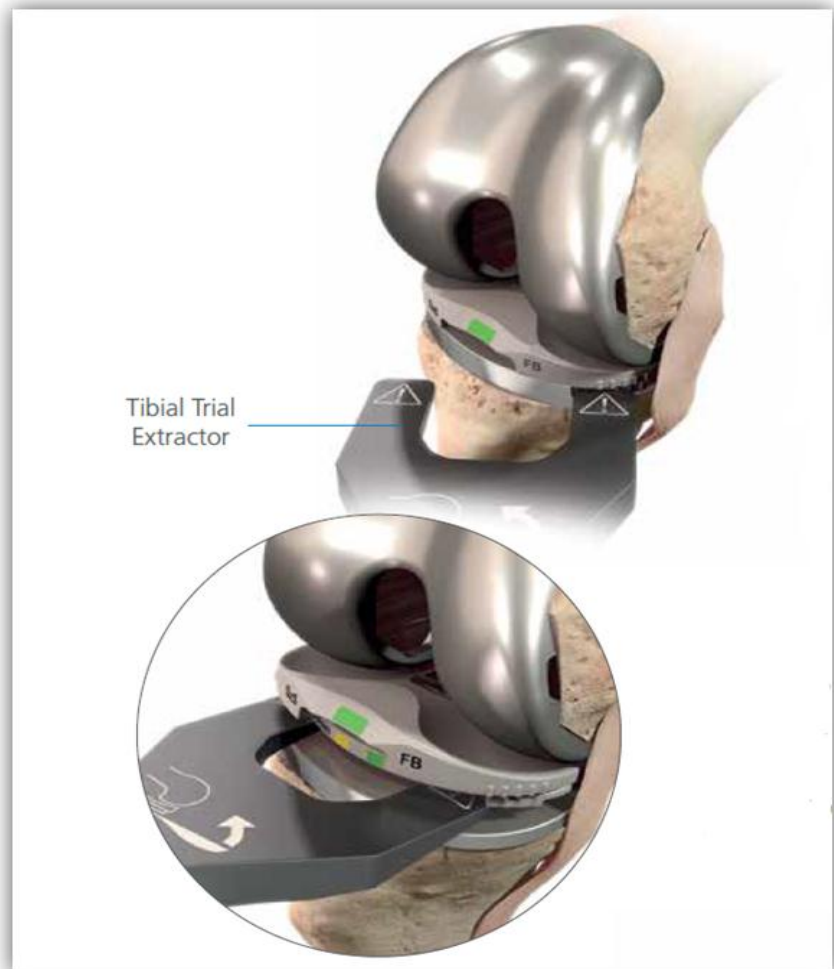

Figure 4: Image is From the ATTUNE® INTUITION™ Instruments Surgical Technique and Shows the Correct Use of the Tibial Trial Extractor
- c. When using the Tibial Trial Extractor with the fixed bearing implant (Figure 4):